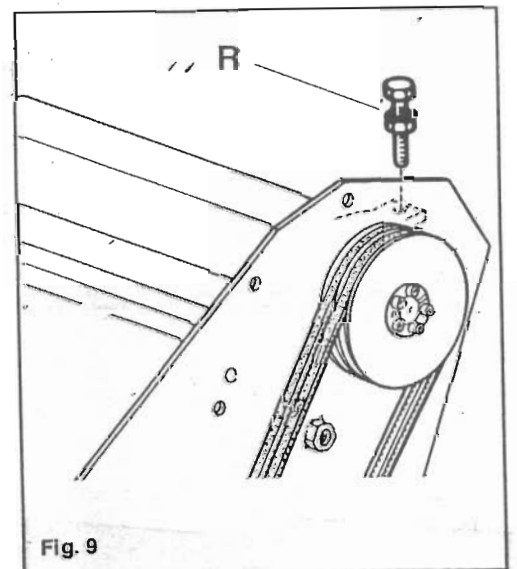

Fig. 9
- 4. THE BELT IS ADJUSTED BY SLACKENING THE RETAINING BOLT (IN SLOTS) AND TIGHTENING THE ADJUSER (R) RETIGHT RETAINING BOLTS BEFORE USE (FIG 9).**